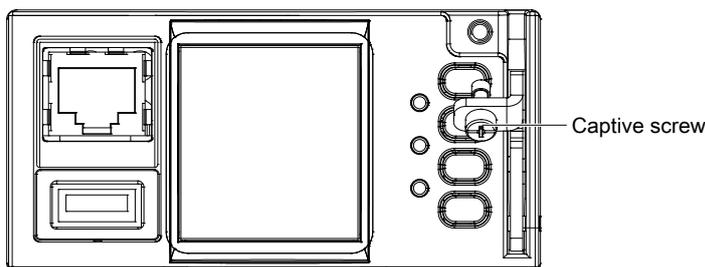

Figure 4-1 Replacing controller (1)
2. Loosen the captive screw of the controller, as shown in Figure 4-1.